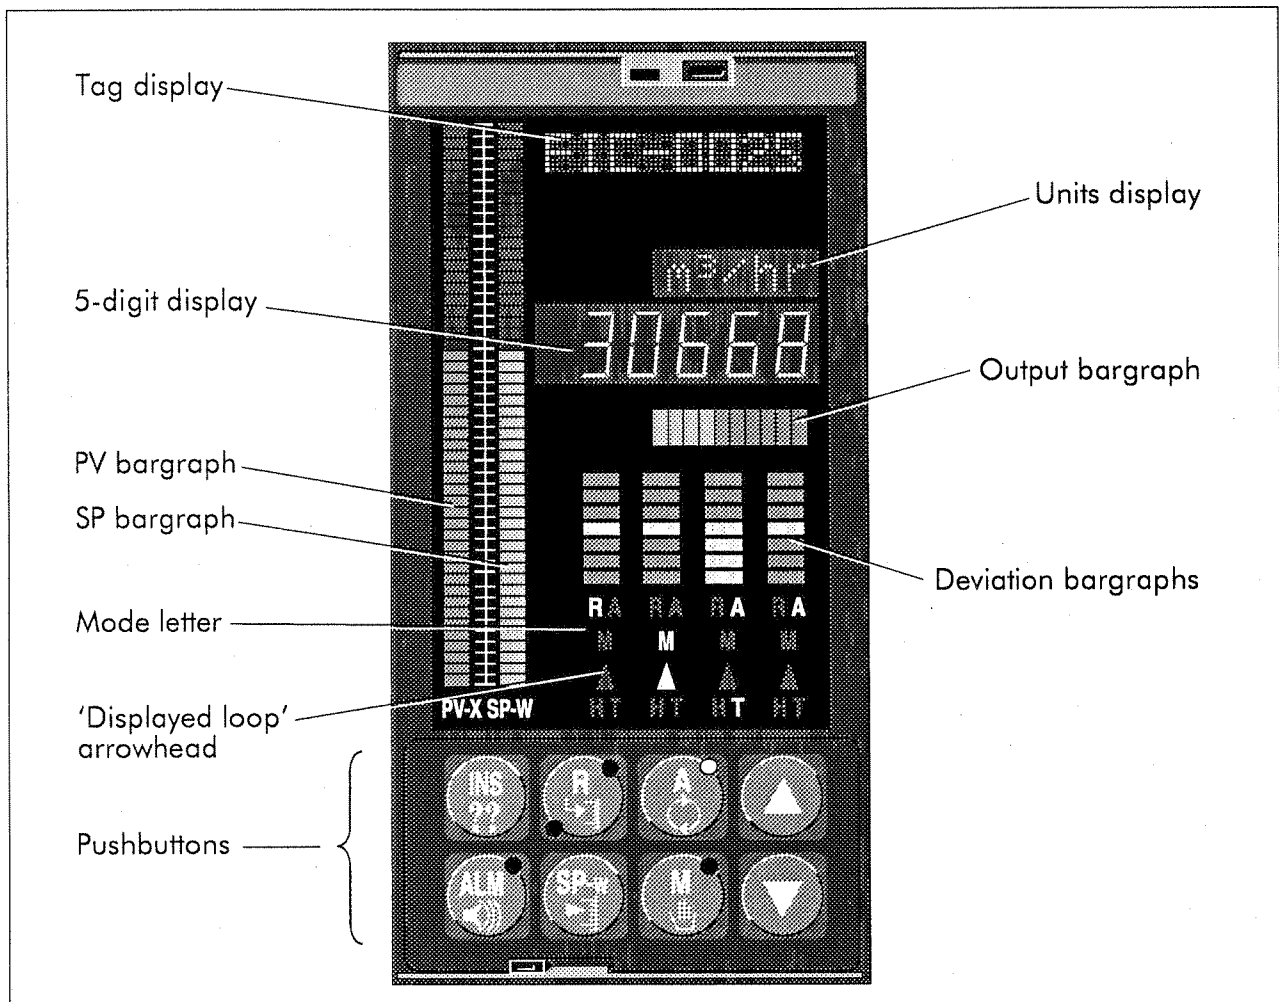

Figure 3-7 T640 front panel — initial power up
Switch on the power to the instrument. You may be quick enough to see the message **Power-on** flashing briefly in the red *tag display* at the top of the fascia (see Figure 3-7). Then **ColdStrt Trying** flashes, telling you that T640 is attempting a 'cold startup' of the single loop database (strategy #1). Next, if the strategy is being loaded for the very first time, you will see **Un Pack Database** flashing in the tag display as the strategy #1 file (which you selected via SW1) is being decompressed from storage in ROM. You may also hear the clicking of a relay closing and opening just after these messages.
Finally, the fascia adopts the normal display shown in Figure 3-7.
Refer to Figure 3-7. **FIC-001** in the red tag display is the loop's 'tagname', appropriate to a flow controller. Note that you can select an alternative tagname if you wish — see Table 5-5 in Chapter 5 — but 'FIC-001' will do for this tutorial. The green **0.00** appearing in the *units display* — accompanied by the glowing green **SP-W** legend — shows the loop's setpoint (SP) value. The red *5-digit display* shows the current PV value (also **0.00**), accompanied by the glowing red **PV-X** legend.
The resultant setpoint is currently 0.00 units, as shown in the green units display (see Figure 3-7). Alter this to about 50 units as follows: